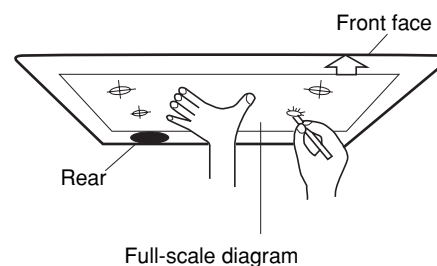

Fig. 3-39
- (1) Place the full-scale diagram (supplied) on the ceiling at the spot where you want to install the indoor unit. Use a pencil to mark the drill holes. (Fig. 3-39).